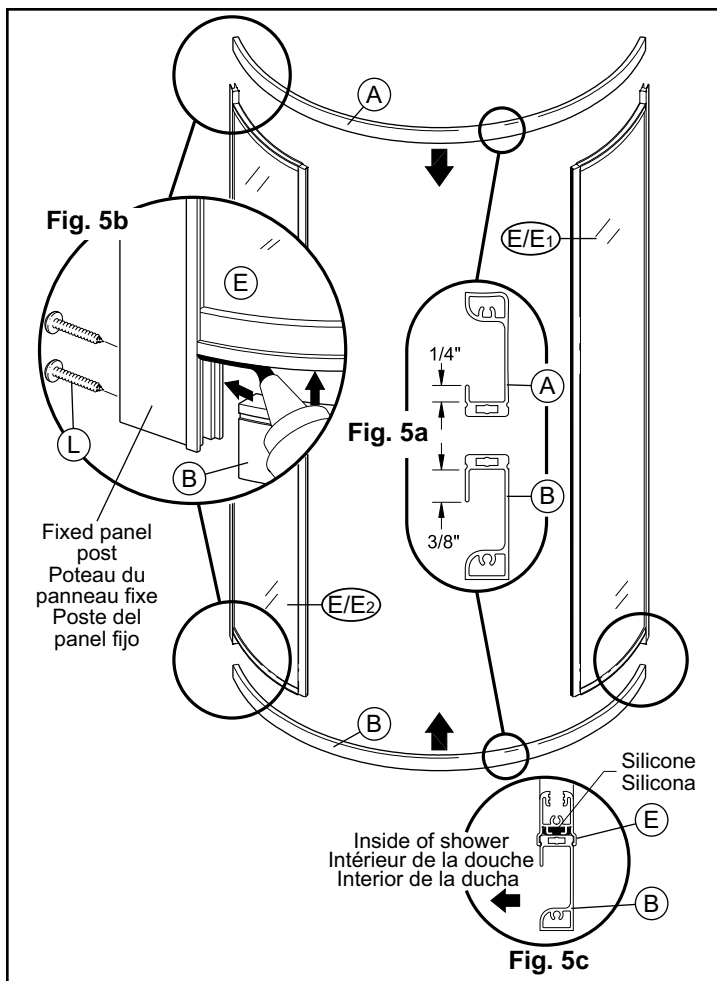

Fig. 5
- Fit the top and bottom rails into fixed panel (E). Press down firmly so panels (E) fits into rails (A and B) (**Fig. 5**). Make sure that the top and bottom rails are well supported against the post of the fixed panels (E) (**Fig. 5b**).